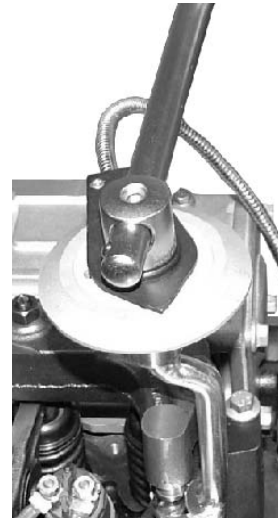

Fig. 7.2.4
- (b) Fix the tool (Fig. 7.2.4) on the adjustment screw (1) and adjust the clearance as follows:
- tighten the locknut (2), using a torque tool (torque 20 Nm).
(5) Control and eventual adjustment of the alternator belt tension